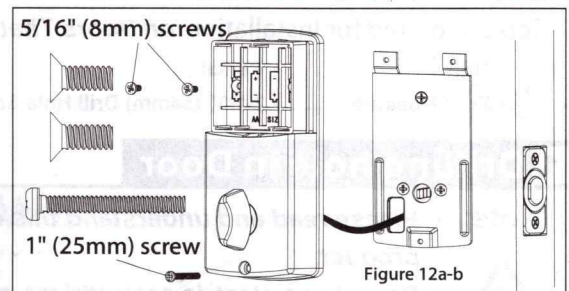

Figure 12a-b
- Position the Interior Assembly over the tailpiece and push the Interior Assembly against the door (Figure 12a-b).
- Using two 5/16" (8mm) screws and one 1" (25mm) screw, attach the Interior Assembly to the Mounting Plate. DO NOT OVER TIGHTEN SCREWS (Figure 12a-b).